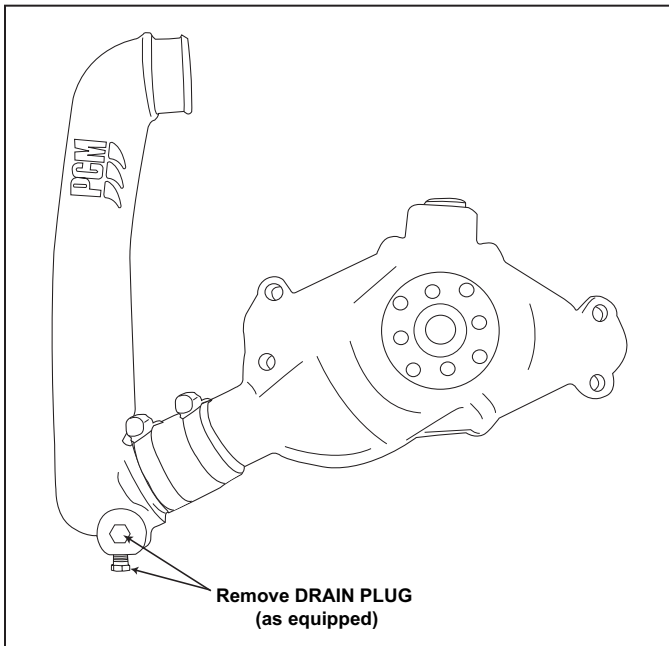

Figure 11-11 Draining Engine Circulating Pump (5.0/5.7L)
- Remove the large hose from the engine block water circulating pump, or drain plug as shown in Figure 11-11.